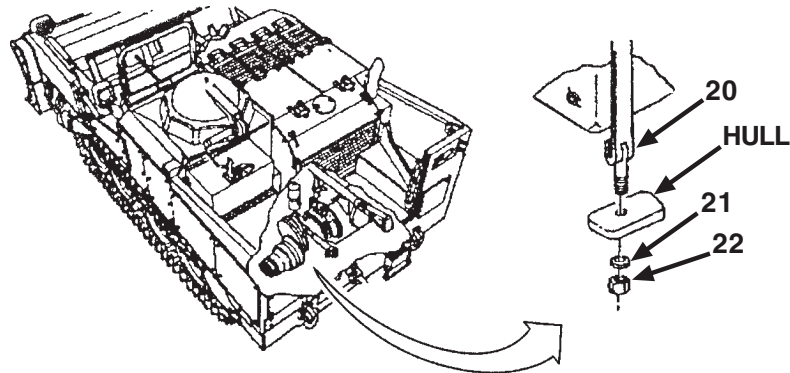

Figure 75. Rear Fuel Tank Strap.
Step 7 applies to Figure 75.
7. Connect rear fuel tank strap (item 20) to hull with washer (item 21) and locknut (item 22).